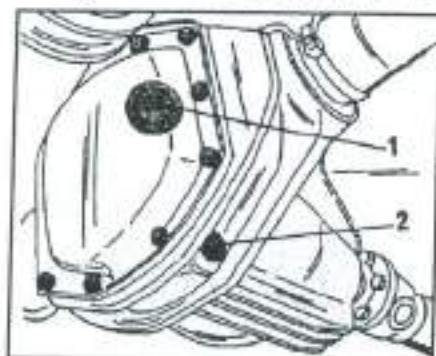

Fig. 5.12 – The location of the oil level filler plug (1) and the oil drain plug (2).
- Place the rear end of the vehicle on chassis stands and unscrew the drain plug at the position shown in Fig. 5.12, using the Allen key mentioned above. Again the area around the plug must be thoroughly cleaned. Take care if the oil is hot, as it will spit out immediately.
- Clean the cover of the axle drive and unscrew the level/filler plug (1) in Fig. 5.12.